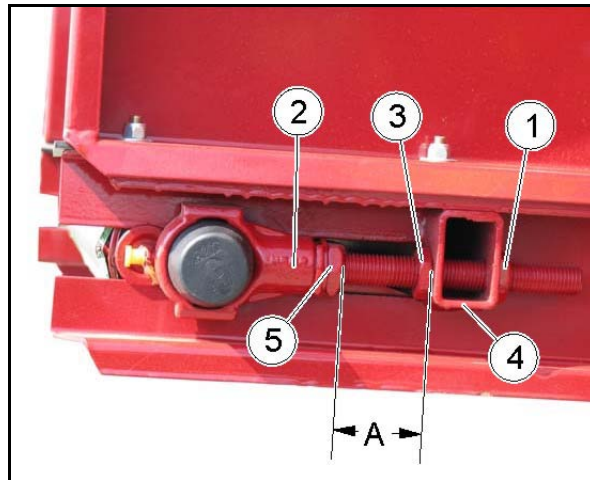

Fig. 101
- Straighten the conveyor by means of the clamping screws (Fig. 101/2) if the conveyor is not running straight or is rubbing along the frame.